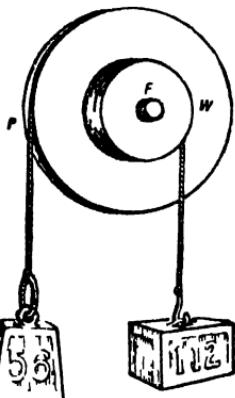

Fig. 80. A wheel and axle.
**The wheel and axle.** Fig. 80 illustrates a device known as the wheel and axle. The mechanical advantage of this machine is equal to